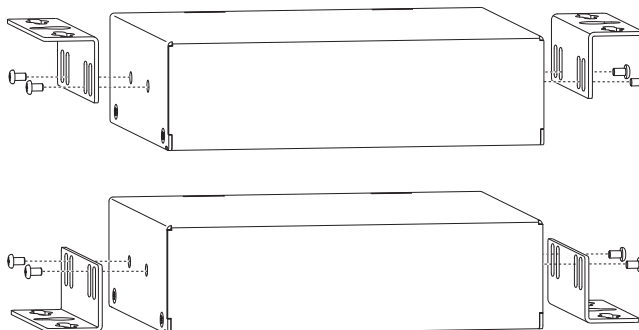

FIG. 30 Installing Surface Mount Brackets
Insert the #4-40 3/16 inch pan head screws (provided) as shown in FIG. 30 and tighten. Brackets can either align flush with the top or with the bottom.
1. Attach the mounting brackets to the module according to the instructions for surface mounting (see FIG. 30).